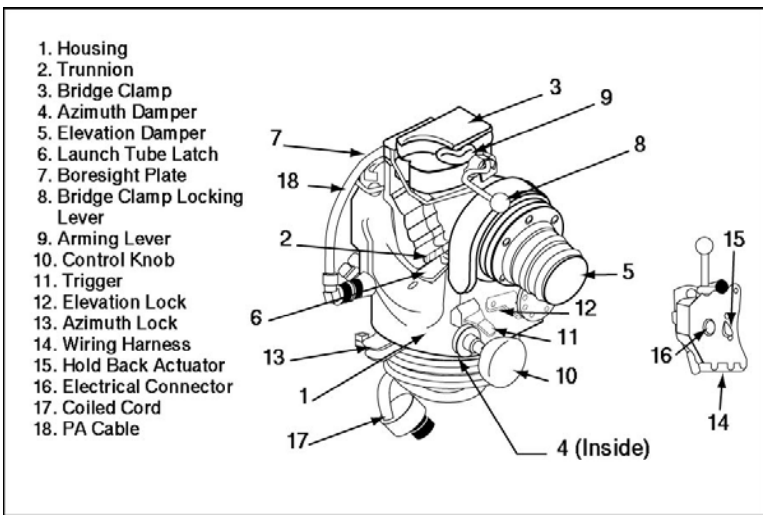

Figure 2-2-3: Traversing Unit
13. **Traversing Unit (TU).** The TU is an electro-mechanical assembly which attaches to the tripod or the vehicle pedestal mount, and is the mounting base for the optical sight and the launch tube. The main assemblies of the TU are the housing, trunnion, bridge clamp, azimuth and elevation dampers and the wiring harness (see Figure 2-2-3). Details of the major components of the TU are: